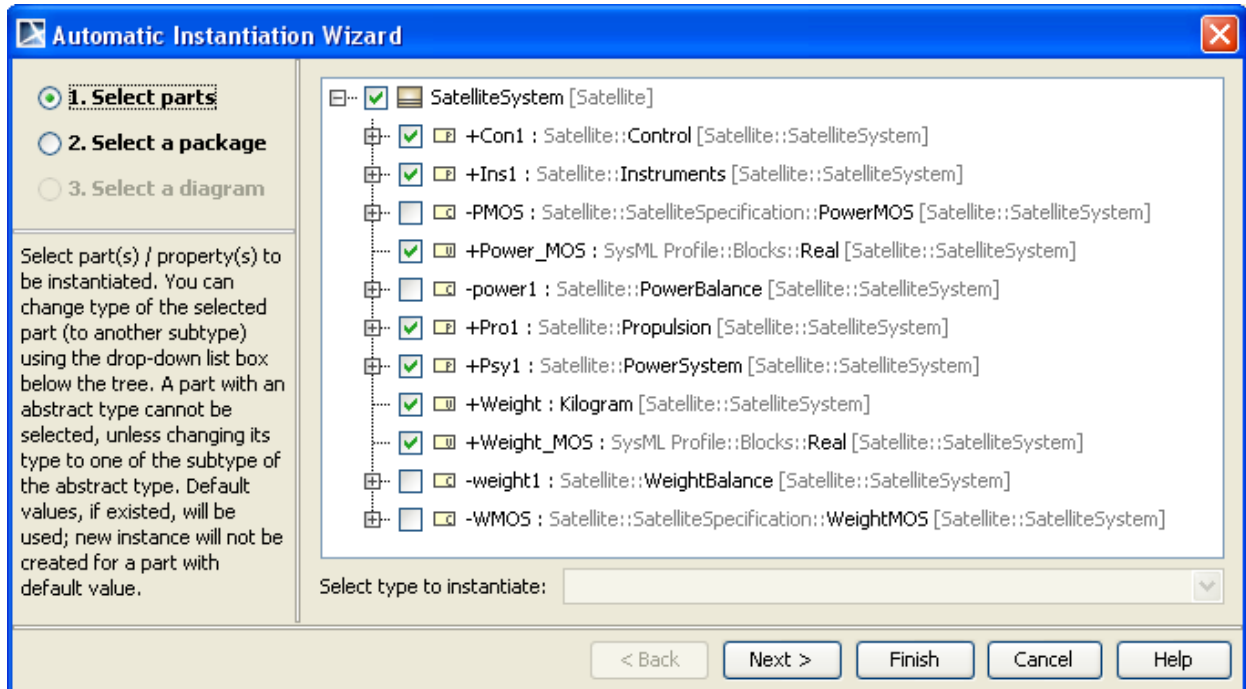

Figure 3.7a Automatic Instance Generation, Part 1
- i. The Automatic Instantiation Wizard is launched as in Figure 3.7a.